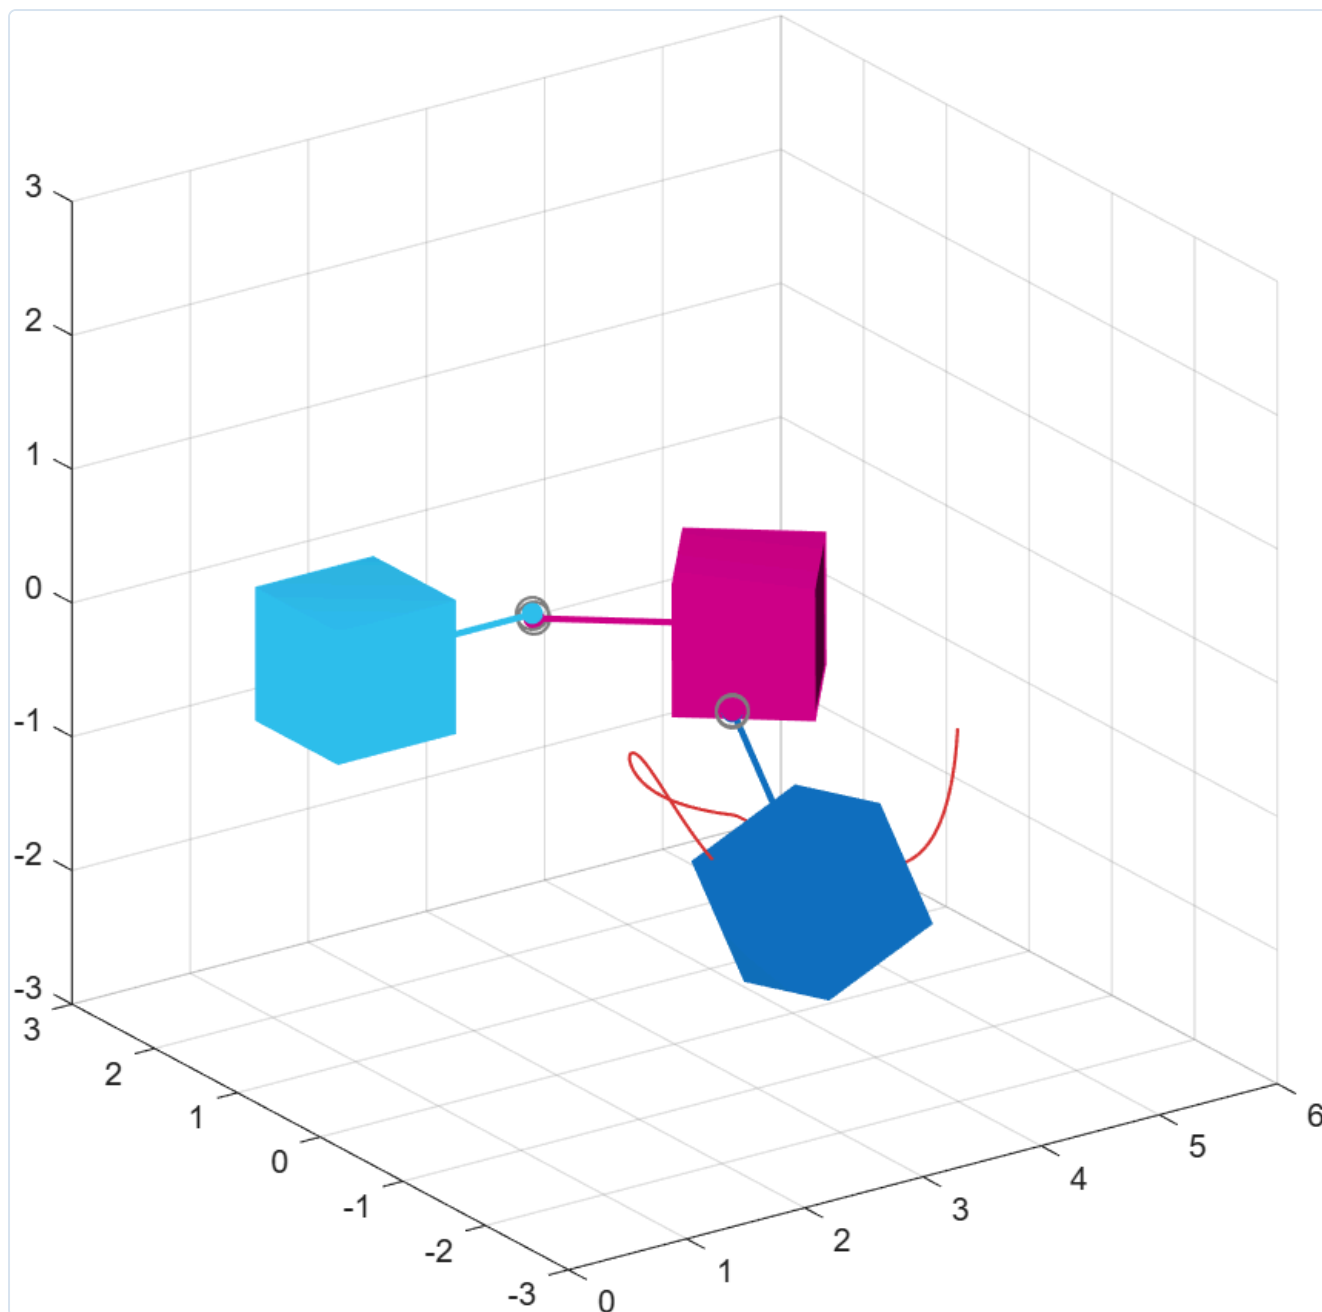

Fig. 3 – A chain of two joints (hinge + ball joint). The red line is the trail of the chain's end (`phx.Trace`).
- `phx.Trace` – draws the trail of a chosen body point (see Figs. 3, 5, 6).